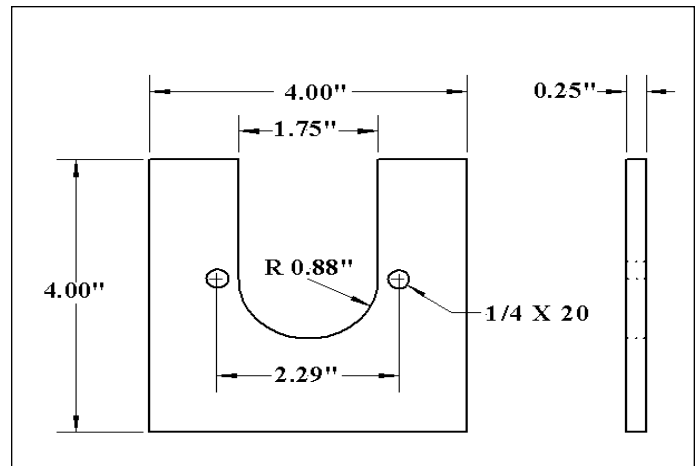

Figure 1 - Steering Wheel Removal
1. Remove score card holder from steering wheel, by removing two (2) screws under steering wheel. Also, remove two screws securing lower steering wheel cap to underside of steering wheel, allowing cap to slide down steering column.
3. Using an automotive type steering wheel puller, and adapter shown below, remove steering wheel as shown in Figure 1.